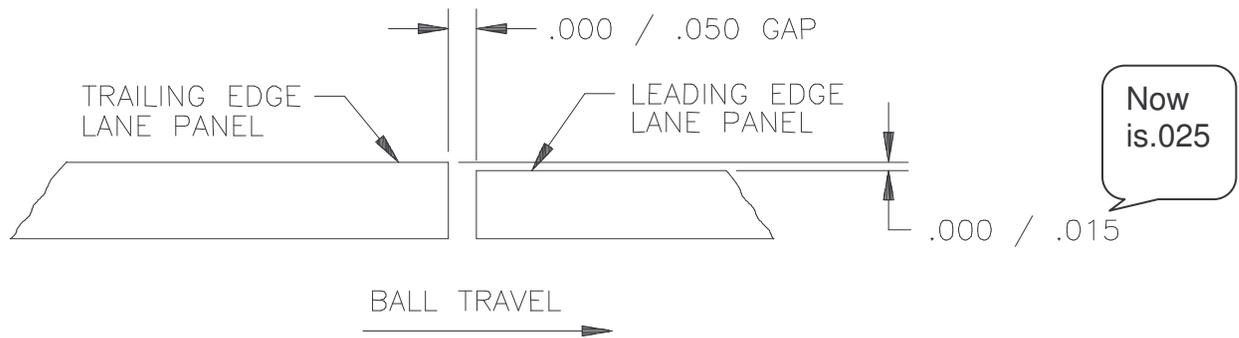

Figure 2
- 8.5.6** The leading edge must be flush to not more than .015" below the trailing edge of the adjacent panel (see fig. 2, page 34). If a joint step down must be corrected to meet this ABC specification, measure the difference between the panel and the adjacent panel elevation to determine how much a panel needs to be shimmed.